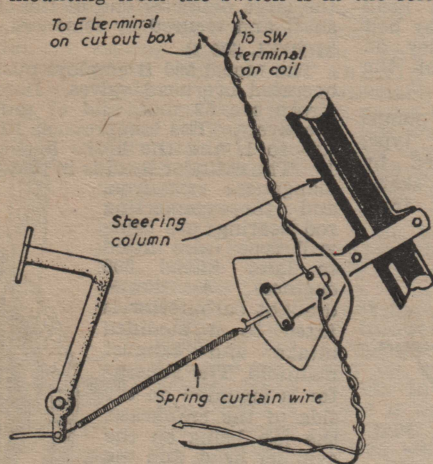
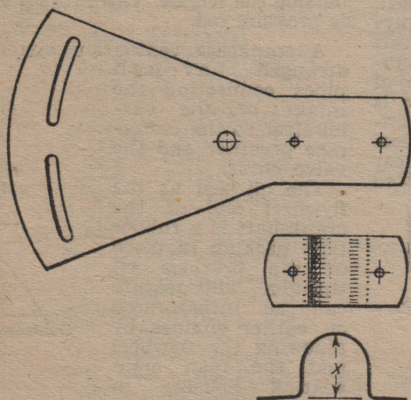

Fig. 1.—Layout of the stoplight fitting.
Fig. 2.—Component parts of the fitting.
**A** GREAT advantage of this method of fitting a stoplight to a 1936 Morris 8 is that it involves no drilling of the brake pedal crank. Fig. 1 shows the layout and Fig. 2 the component parts of the unit.
Since in some old cars the earth return system is not reliable, it is advisable in the interests of safety to run a twin cable connecting to the E terminal on the cut-out box and cutting in with the positive in the ignition system. This is clearly indicated in Fig. 1.